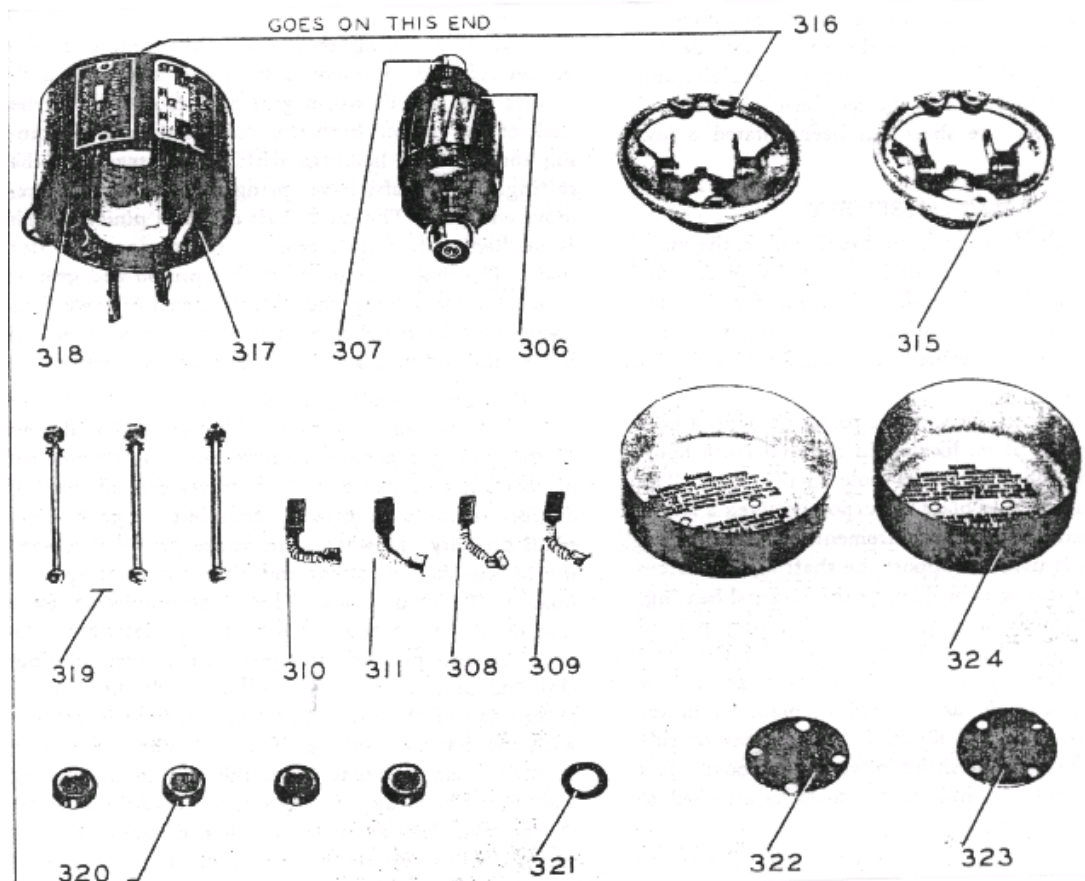

Figure 5-4 Dynamotor DM-28-(*) or DM-24-(*) -- Disassembled
(5) Lubricate the dynamotor at 1,000 hours or approximately six months of ordinary service. For ordinary and LOW temperature conditions use a mineral oil grease AN-G-15. For unusually high temperatures which are present in tropical climates use AN-G-5 grease. The directions for lubrication are stamped on the inside of the end-bell dust covers. Access to the bearings of the dynamotor is obtained by removing the dust covers after first cutting the safety wires and removing the retaining screws, then unscrewing the bearing end plates. Do not PACK the lubricant in these bearings.
(6) When necessary to replace the ball bearings or turn down the commutators, first remove the brushes from their cartridges. (See fig. 5-4.) Remove the nuts from the tie rods which hold the bearing end-bells, and pull the end-bells away from the field coil assembly. The armature can now be taken out. Examine the brushes to see that they have worn properly and are free from hard spots. Should such spots be apparent (they generally cause grooves in the commutator surface), replace the brush and smooth the commutator. The ball bearing retainers and the shaft are machined for very snug fits, but a slight tapping will loosen them. To remove the bearing retainers from the end-bells, use two small screwdrivers as wedges between the outer ball race and the end-bell. If the grease slinger becomes bent during removal, straighten it and replace it on the shaft before replacing the bearing.